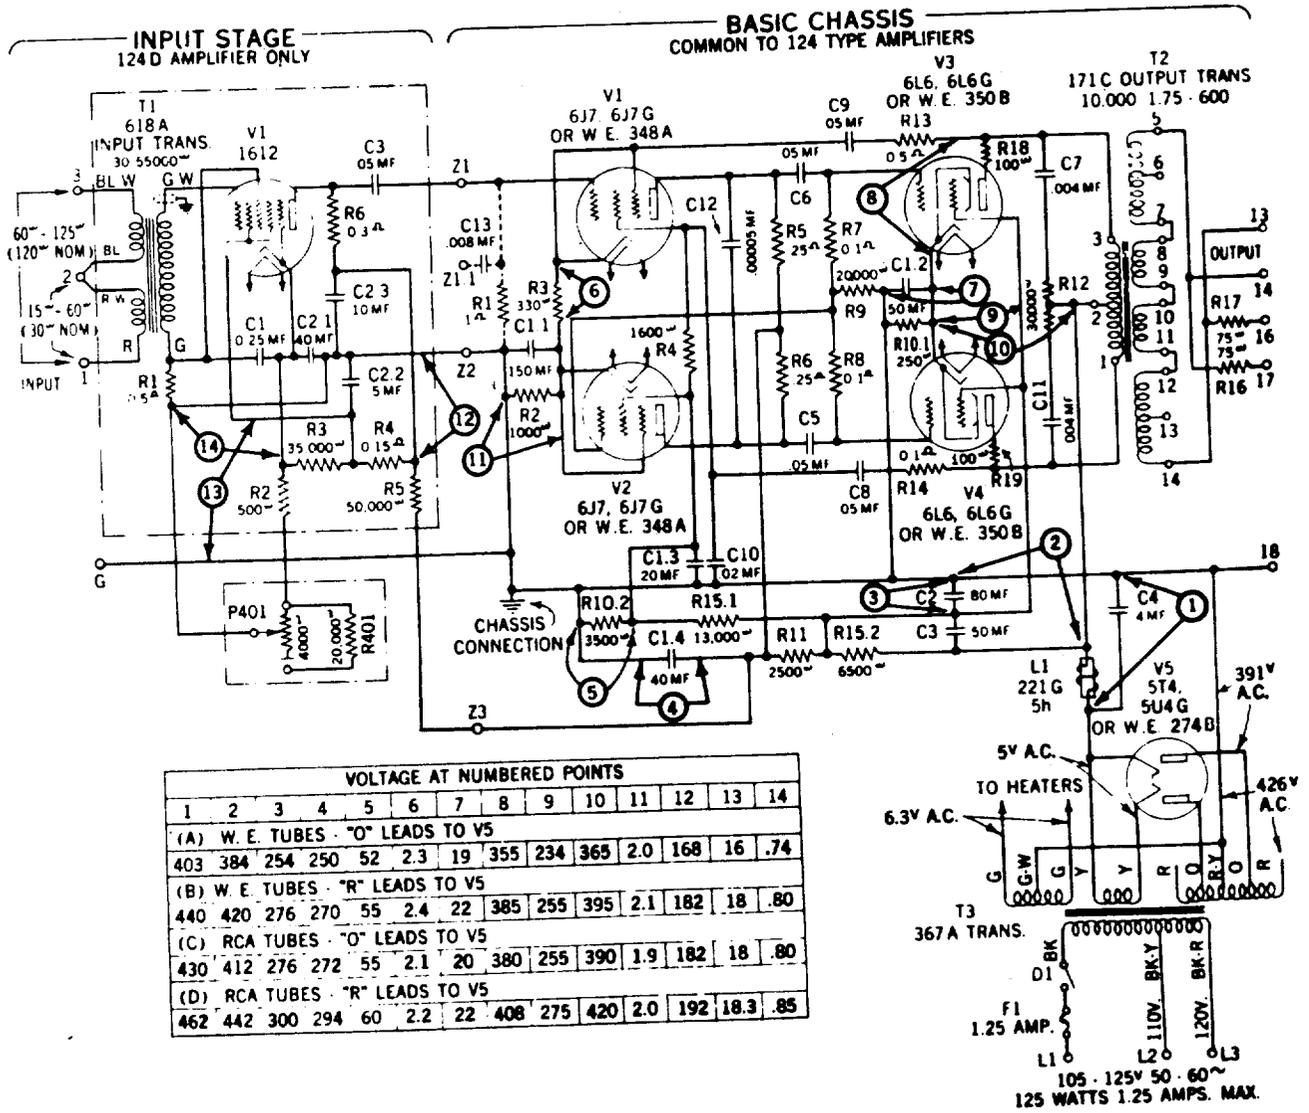

Fig. 2
4.63 In connection with locating troubles within the amplifier, the operating currents and voltages of various parts can be checked in accordance with the information included in Figs. 2 and 3. Make these tests with a volt-ohm-meter having a resistance of at least 1000 ohms per volt.
- 4.65 Measure the voltage and current at the numbered points as shown in Figs. 2 and 3.